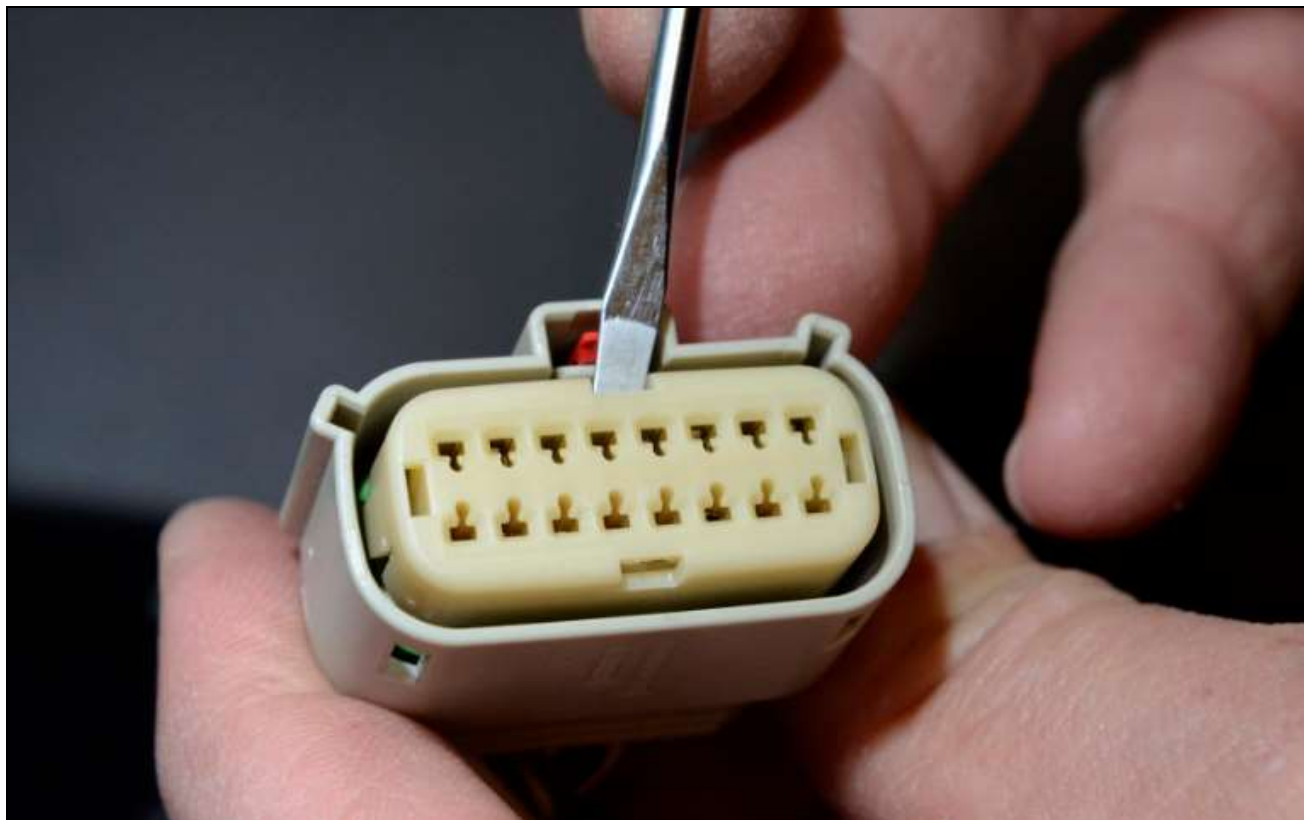

Figure 3
7. Using a suitable tool remove the terminal lock for the connector (Figure 3).